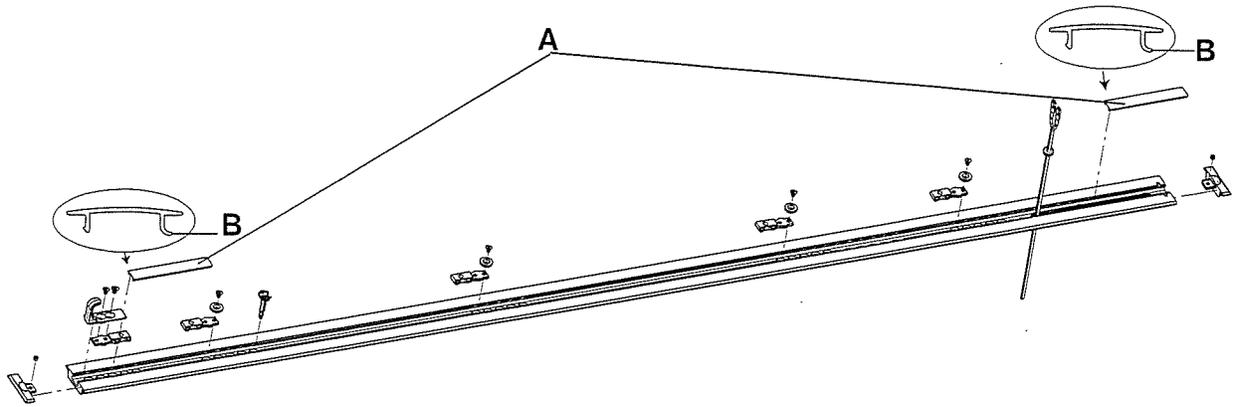

Figure 7: Cut floor plate covers
9. Using a saw, cut the two floor plate covers (6390-001-166) (A) to fit the measured length on both ends (Figure 7 on page 19). The floor plate cover does not fit over the floor plate attachment bracket.